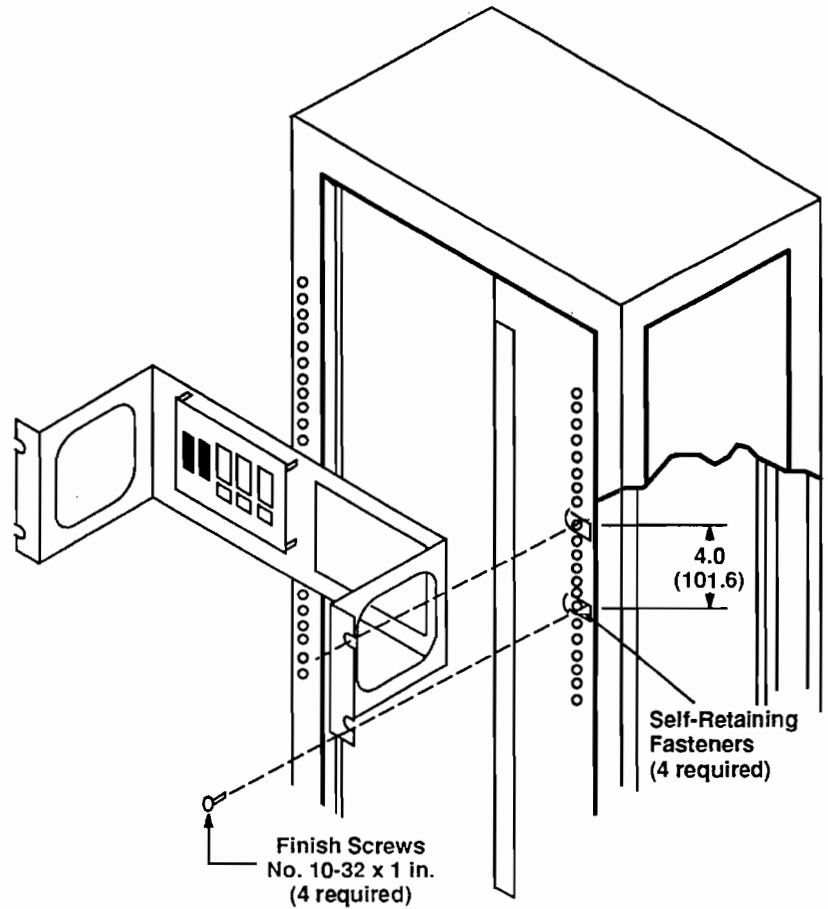

Figure 2-5. Attaching the Rack-Mount Panel to the Rack
4. Push the four self-retaining fasteners, supplied with the rack-mount kit, onto the rails inside the rack. The fasteners must be located four inches vertically from one another. See Figure 2-5.